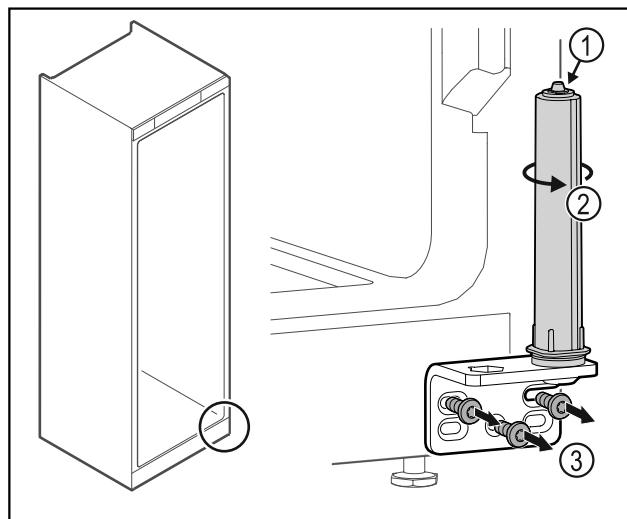

Fig. 28
- Do not disassemble the door closing system Fig. 28 (1).
- Turn the closing system Fig. 28 (2) until it clicks.
- Unscrew the hinge Fig. 28 (3).